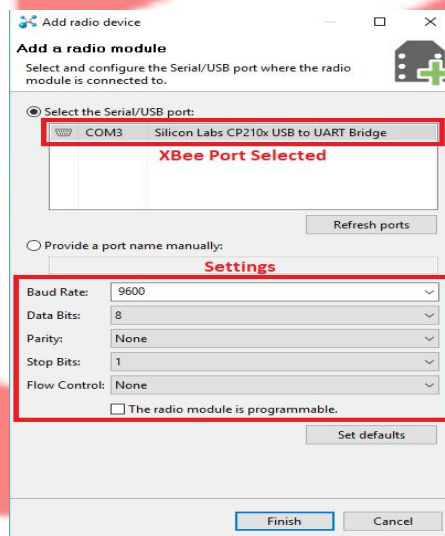

Figure 8: Add Radio Device window
6. In the **Add Radio Device** window, select the COM port where XBee is connected as shown in Figure 8. The Settings as shown in Figure 8 will remain default. Click on Finish.